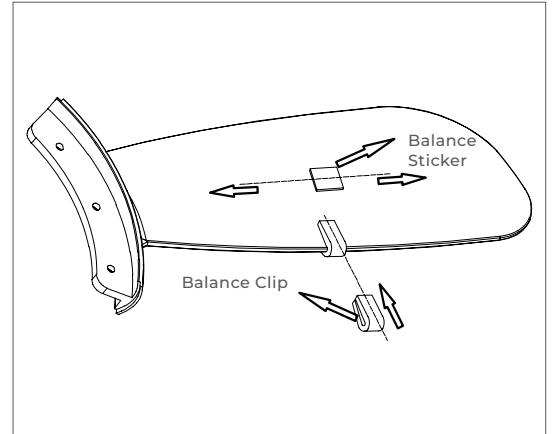

FIGURE 2
A) Take out the balancing bag in the package box and use the balancing clip to select and clip to one edge of the fan blades (Figure 2).
C) Place the balancing clip on the weakest fan blade, move inward or outward on the blade edge, and open the ceiling fan to find the best position for the balancing clip to control the steady wobble (as shown in FIG. 2 on the right).
D) Take the balance sticker, tear off the double sided adhesive tap of the balance sticker, and stick the balance sticker to the central position of the blade in the position of the balance clamp (as shown in Figure 2 on the right).